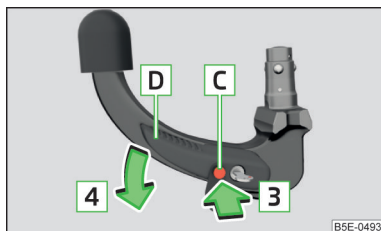

Fig. 180 Second Step: both key variants
- Push release pin **C** in the direction of arrow **3** to the stop, and simultaneously push operating lever **D** in the direction of arrow **4** to the stop » Fig. 180.